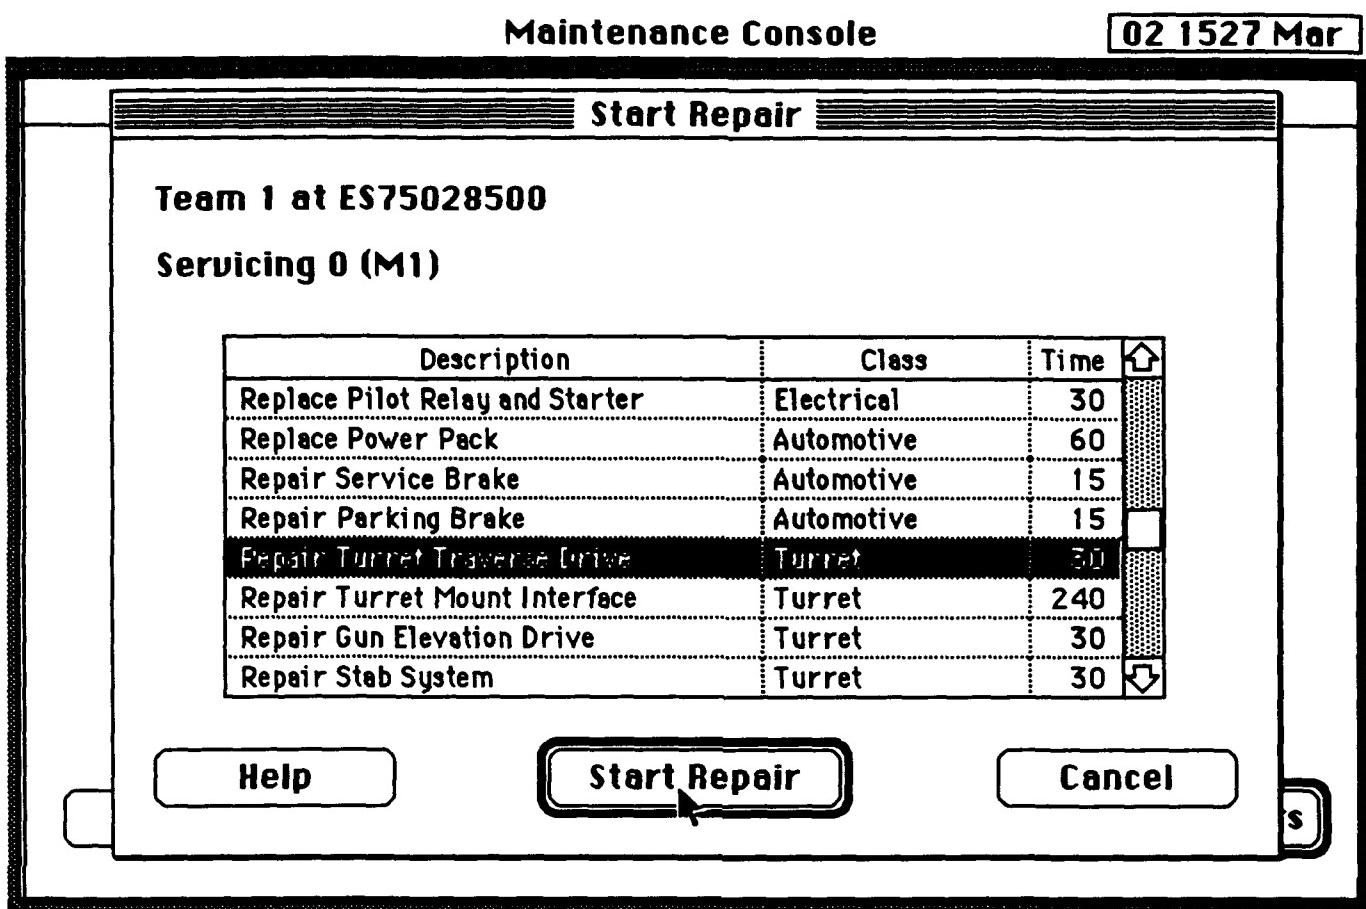

Figure 10.4.3 REPAIR detail display
Step 3: Click the mouse on the Start Repair box to start the repair. The time it will take is noted in the time column of the Start Repair display shown in figure 10.4.3.